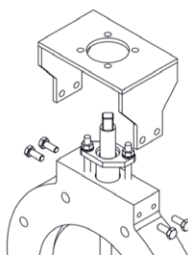
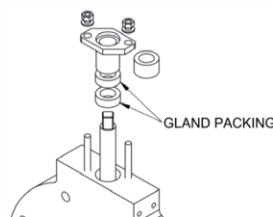

Figure 6
Figure 7
To replace the upper seal (7), first remove the actuator bracket (2) by unscrewing 4 bolts (11)(Figure 6). Then unscrew both nuts from the tie-rods (Figure 7) and remove them. Remove the gland flange (9) to release the gland packing and shaft bearing.